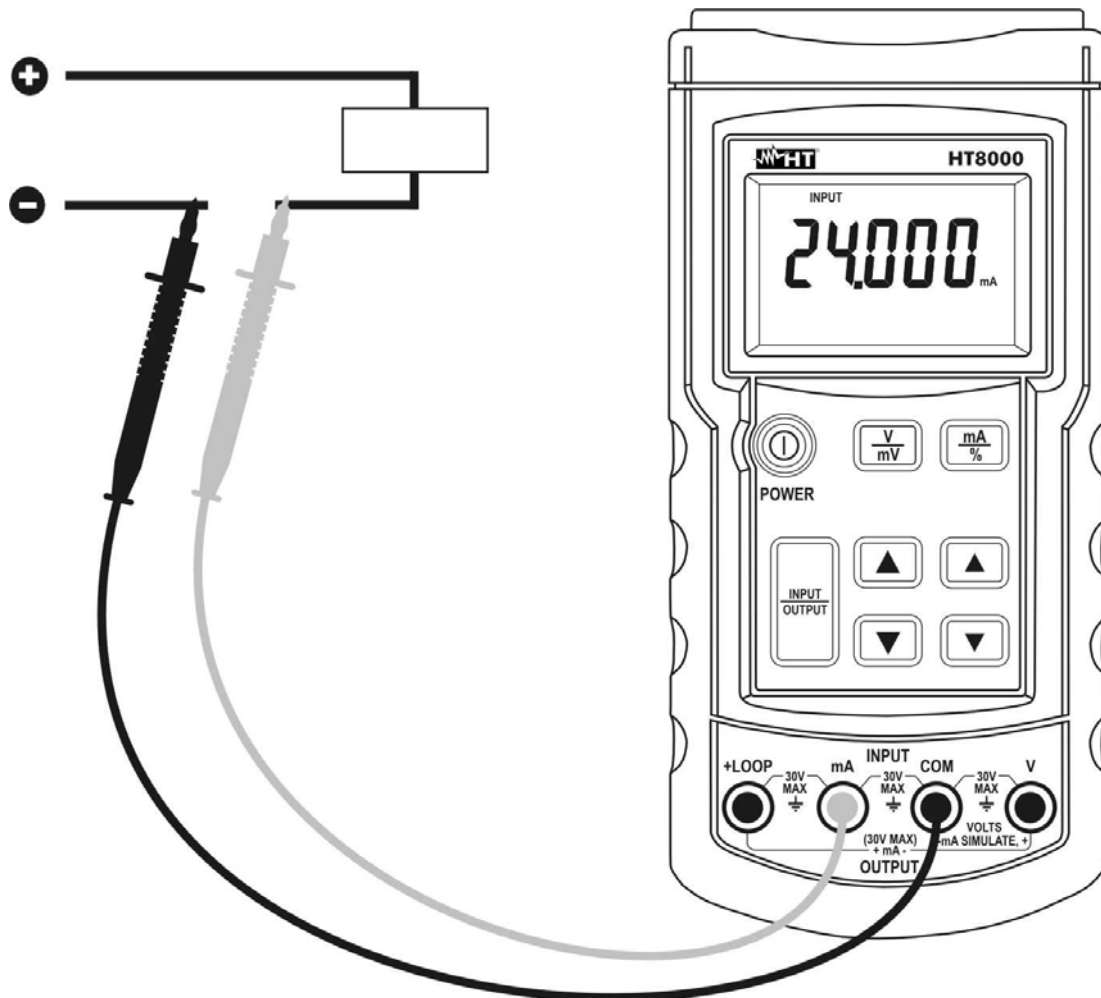

Fig. 4: DC current measurement
5. Connect red and black plugs in series with the circuit under test respecting the polarity and current flow (see Fig. 4).
7. The message "**O.L**" means that the current exceeds the measuring limits. The symbol "**-O.L**" on the display means that current has opposite direction than shown in Fig. 4